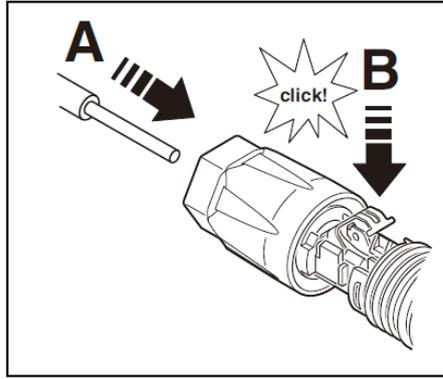

Figure 5-12
4. Carefully insert the stripped wire with twisted litz wires all the way in (Figure 5-12, A). The litz wire ends have to be visible in the spring.
5. Close the spring. Make sure that the spring is snapped in (Figure 5-12, B).